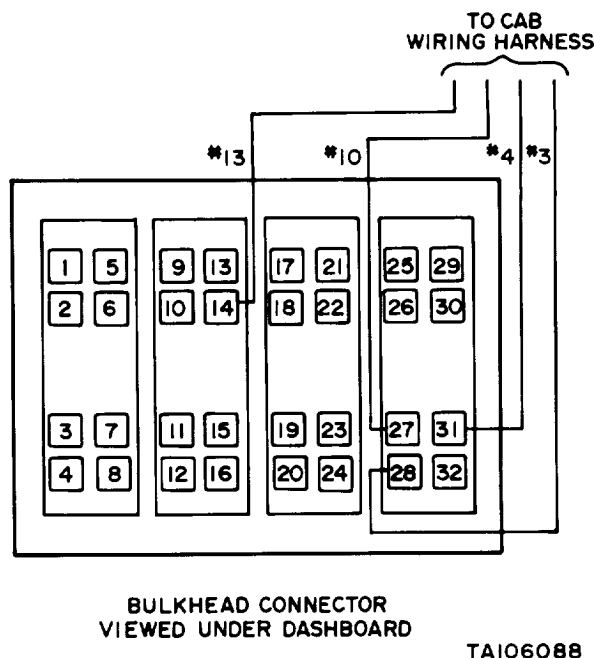

Figure 25-6. Bulkhead Connector.
(33) Reinstall fuse panel.
(34) Separate bulkhead connector (located under the hood at extreme left of firewall).
(35) Depress locking tang of receptacle 14 by inserting a thin, narrow tool into groove of plastic connector of bulkhead connector receptacle (figure 25-6).